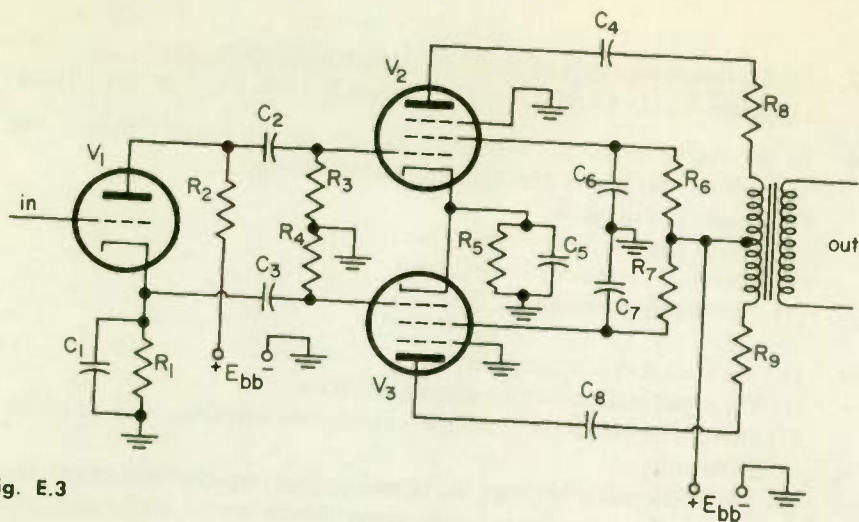

Fig. E.3
(1) Class A amplifier with cathode resistor bias
(2) Class B push-pull amplifier
(3) Class C amplifier with grid-leak bias
(4) Cathode follower
32. What minimum changes are required for the circuit shown in Fig. E.3 to function properly as a push-pull audio amplifier driven by a phase inverter?